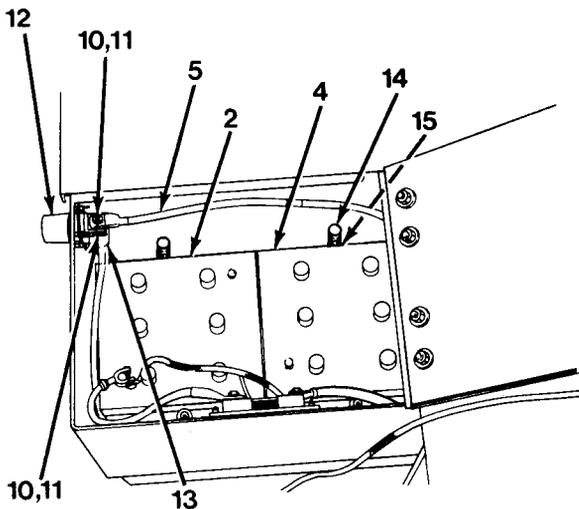
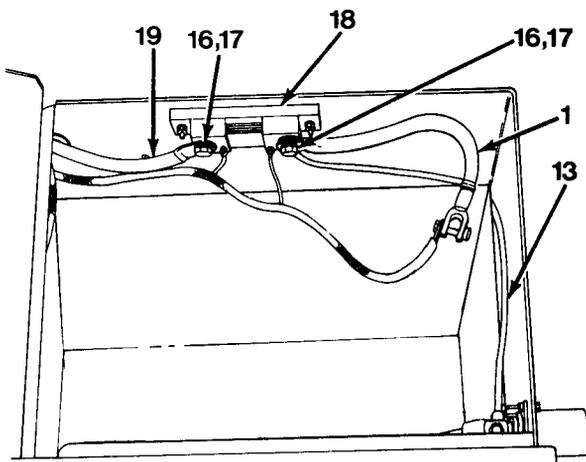
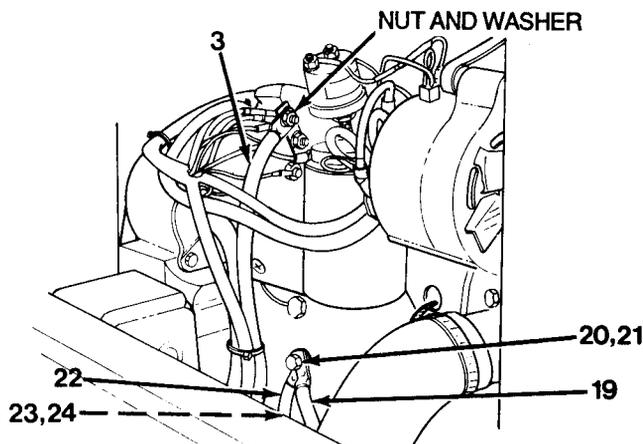
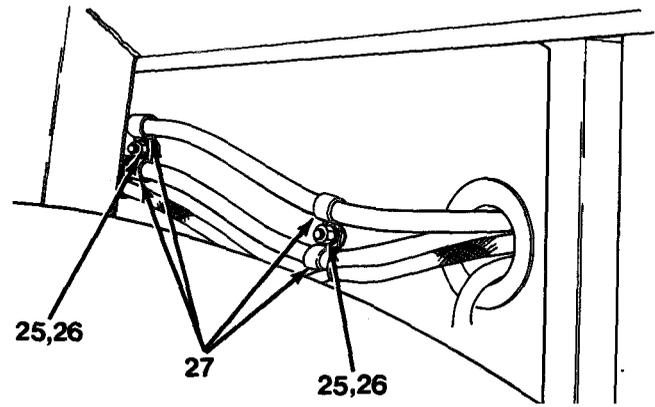

Figure 10-2
Figure 10-3
Figure 10-4
Figure 10-5
8. Remove capscrew (10), two washers (11) and disconnect cable (5) from slave receptacle (12, Figure 10-2).
9. Remove capscrew (10), washer (11) and disconnect cable (13) from slave receptacle (12).
10. Remove batteries (2) and (4) from battery compartment.
11. Remove four bolts (14) and O-rings (15).
12. Remove capscrew (16), washer (17) and disconnect cables (1) and (13) from shunt (18, Figure 10-3).
13. Remove capscrews (16), washers (17) and disconnect cable (19) from shunt (18).
14. Remove bolt (20), lockwasher (21) and disconnect cables (19) and (22, Figure 10-4).
15. Follow cable (22) down to frame and remove nut (23), washer (24) and cable (22).
16. Remove two nuts (25), two washers (26) and four clamps (27, Figure 10-5).
17. Cut and remove all tie straps securing cables (3) and (19, Figure 10-4).
18. Remove nut and washer securing cable (3) to starting motor.
19. Disconnect cable (3) from starting motor and remove cables (3) and (19) from vehicle. Reinstall nut and washer on starting motor.